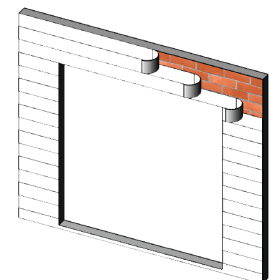

Figure 23:
4. Weather resistant building paper should be applied in a weatherboard fashion to complete the installation (Figure 23).